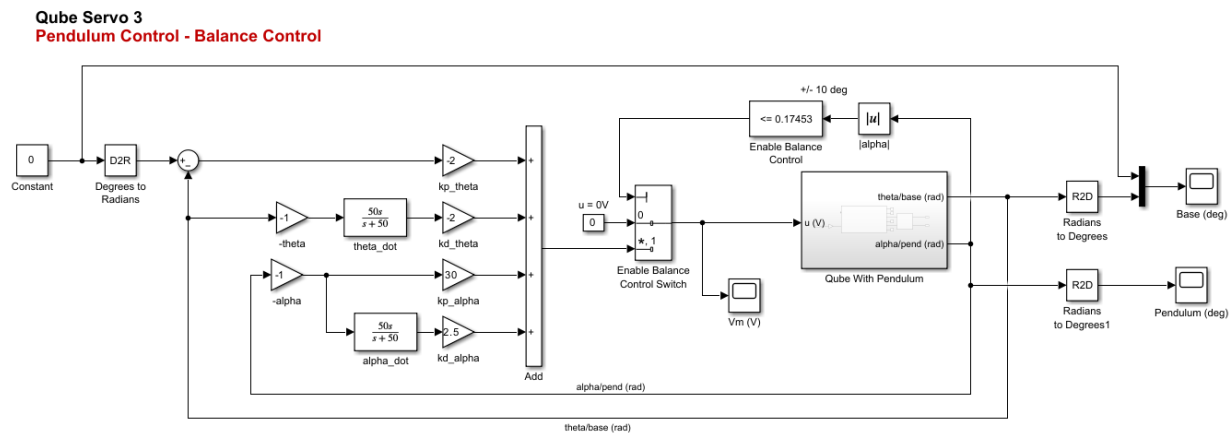

Figure 1: PD control to balance the pendulum
In this lab you will use the qs3\\_balance.slx file to complete the model as shown in Figure 1. This model will be a PD controller to balance the pendulum.
6. Your system should now look like the model in Figure 1.